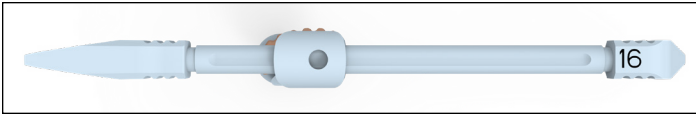

Figure 29
- In a native joint for a **Triathlon Hinge procedure**, to maintain the joint line, the minimum tibial resection from the **native joint line is 16mm**. 16mm of bone will be resected with the initial proximal resection when using the “16” end of the Hinge Tibial Stylus (Figure 29).